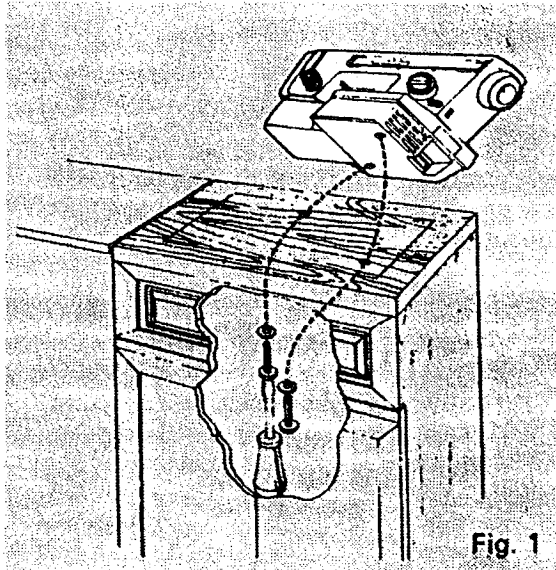

Fig. 1
1. To install the machine in cabinet, position machine head on cabinet platform so that holes on bottom of machine match those on board. Insert washers and screws and tighten into place. (Fig. 1)
1. Remove the base from the machine by pushing the release button (if applicable) and pulling the base to the left. (Fig. 1, 2)